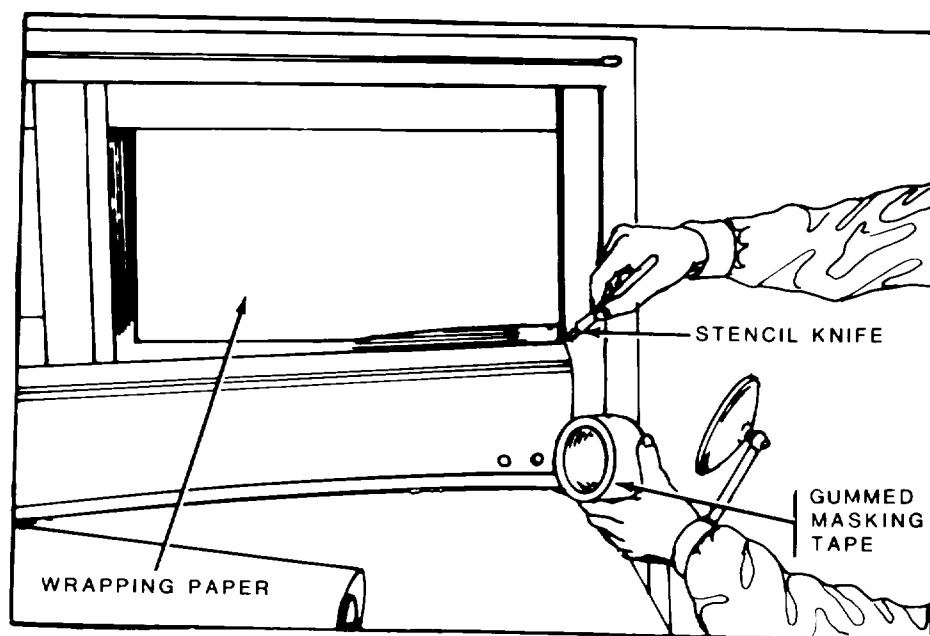

Figure 5-4. Masking
(1) Small areas or irregular-shaped parts are covered with crepe-backed masking tape. On larger areas, a sheet of paper slightly smaller than the part to be masked is used, with the paper being held in place by a strip of masking tape, which overlaps the edge of the paper, and holds the paper to the surface being masked. Masking tape is available in various widths and is a convenient material with which to work when covering irregular outlines. The method of applying and trimming the tape is shown in figure 5-4.
(2) Liquid or past-like materials are also available to mask out areas where paint is not desired. After the paint is dry, these areas may be wiped or stripped clean.
(3) When spraying vehicle engines, the use of cloth bandages and socks will protect rubber hose, ignition wires, and flexible tubing, and save much time and material. Cut the cloth bandage to fit the object to be covered, allowing for hose clamps and other parts of the engine. Drawstrings at each end, with a string wrapped around the middle of the bandage and tucked under a flap, prevent overspray from striking the protected object. Fit the sock over the ignition wires and distributor cap, and use the drawstring tie to secure it around the base of the distributor.